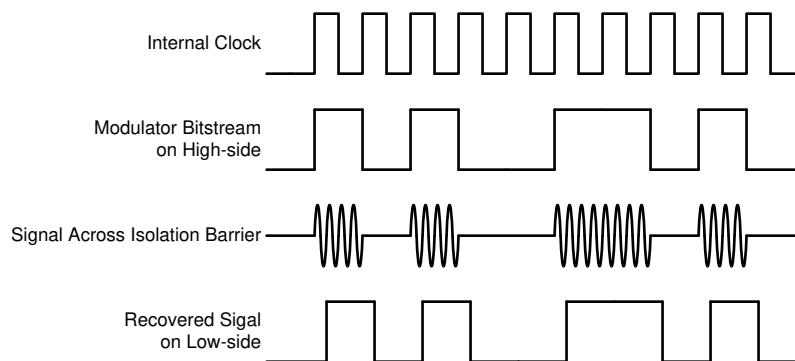

图 6-1. OOK-Based Modulation Scheme
The AMC3301 uses an on-off keying (OOK) modulation scheme, as shown in 图 6-1, to transmit the modulator output bitstream across the capacitive SiO_2 -based isolation barrier. The transmit driver (TX) shown in the Functional Block Diagram transmits an internally generated, high-frequency carrier across the isolation barrier to represent a digital *one* and does not send a signal to represent a digital *zero*. The nominal frequency of the carrier used inside the AMC3301 is 480 MHz.